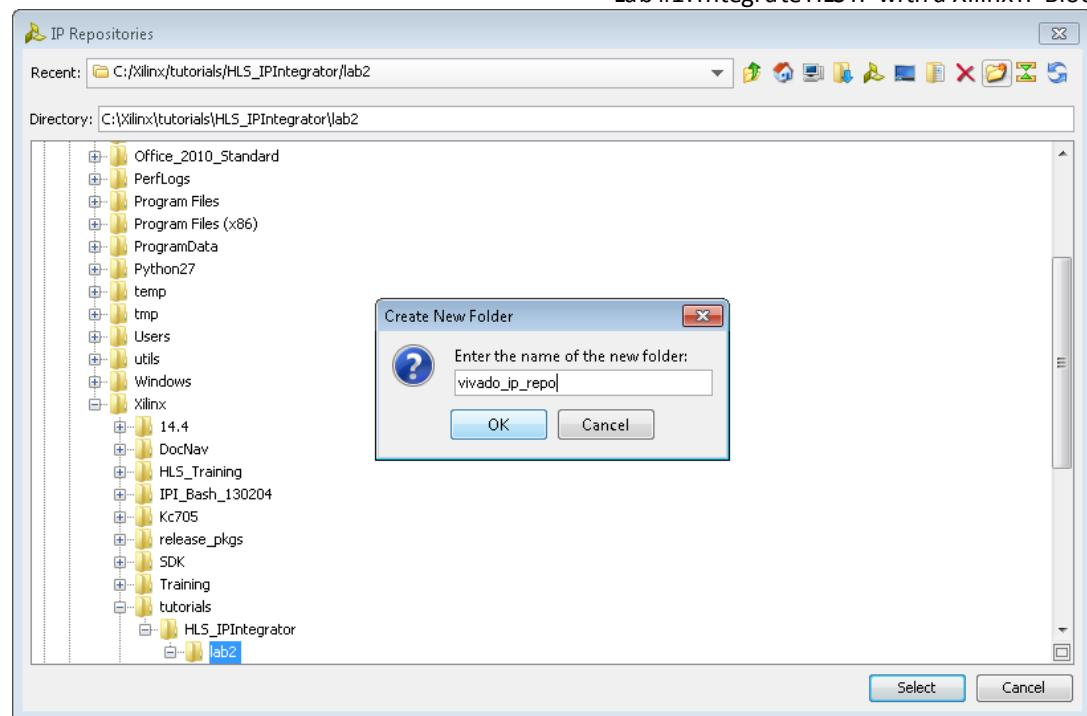

Figure 192 Create a New IP Repository
- c. Enter "vivado_ip_repo" in the resulting dialog (Figure 192).